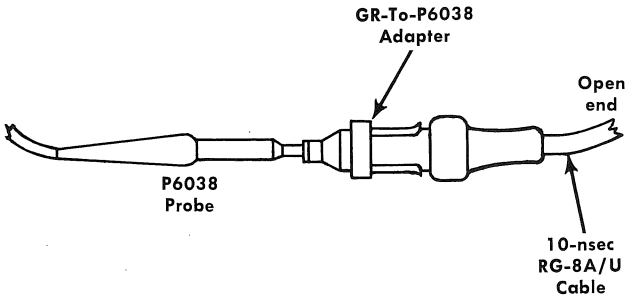

Fig. 5-2. P6038 Probe tip in 50-ohm system.
- a. Connect the Channel A P6038 Probe into the 50-ohm system shown in Fig. 5-2.
- c. Adjust the VERT POSITION controls to center both channel traces, first with the MODE switch at A ONLY; then with the Channel B P6038 Probe connected in the 50-ohm system shown in Fig. 5-2, center both traces with the MODE switch at B ONLY.
- a. Connect the Channel A P6038 Probe to the 50-ohm system shown in Fig. 5-2. Set the MODE switch to A ONLY, and the MILLIVOLTS/CM switch to 100.
- Place the P6038 Probe in the 50-ohm system shown in Fig. 5-2.